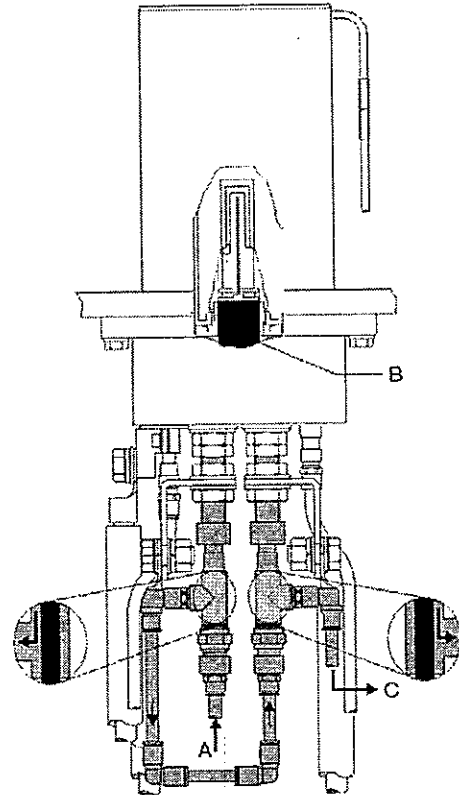

Abb. 3-13 Cooling water circuit <heater receptacle>
**Cooling circuit of the heater receptacle Fig. 3-13, 43**